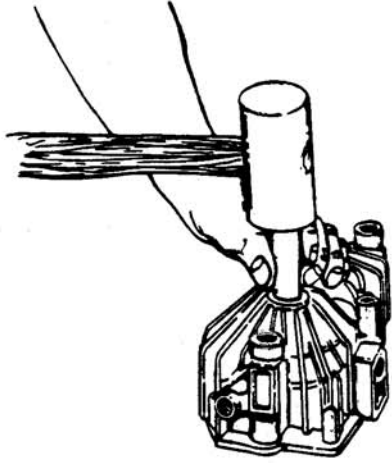

Figure 6-69. Pressing Seal Into Housing
- c. Press seal into housing. See Figure 6-69.